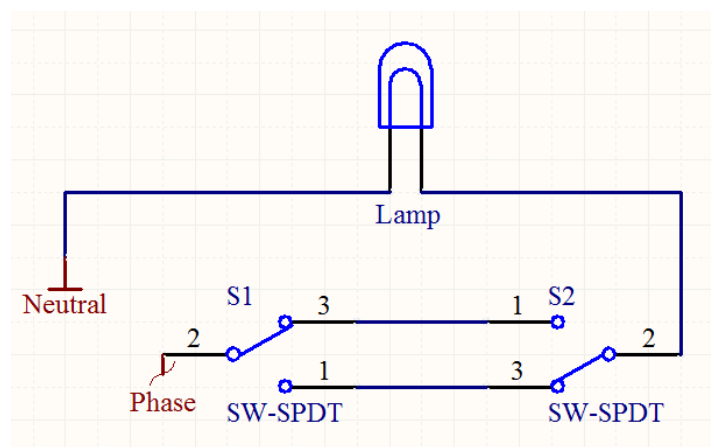
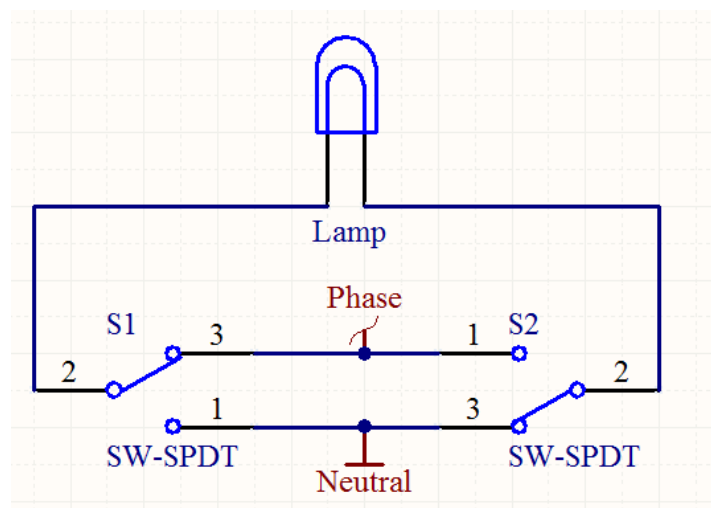

Figure 2: Lamp controlled by 2 different Two Way Switches
Figure 3: Lamp controlled by 2 different Two Way Switches
Figure 2 shows the first setup, consisting of 2 two way switches (or more precisely, SW-SPDTs, viz. Switch - Single Pole Double Terminal) and a lamp holder. The idea here is to use the two way switches to connect and disconnect the phase of the Lamp holder, while the neutral is hard wired.
In Figure 3, instead of connecting the neutral permanently to the Lamp holder, we use the fact that the Lamp will be operational, as long as one of the terminals is connected to Phase and the other to Neutral. This configuration, as given in the circuit diagram, is a simple realization of the same.
2. Connected the circuit according to the circuit diagrams as given in Figure 2 and Figure 3, keeping the following in mind